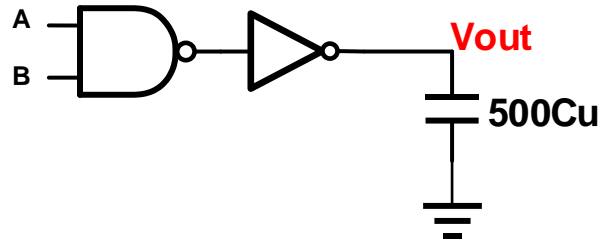

Figure 9. 2-input NAND with 1-stage **inverting** buffer
**3B** : Consider the circuit shown in Fig.9. How should the stages be sized to get the **minimum Power Delay Product**?